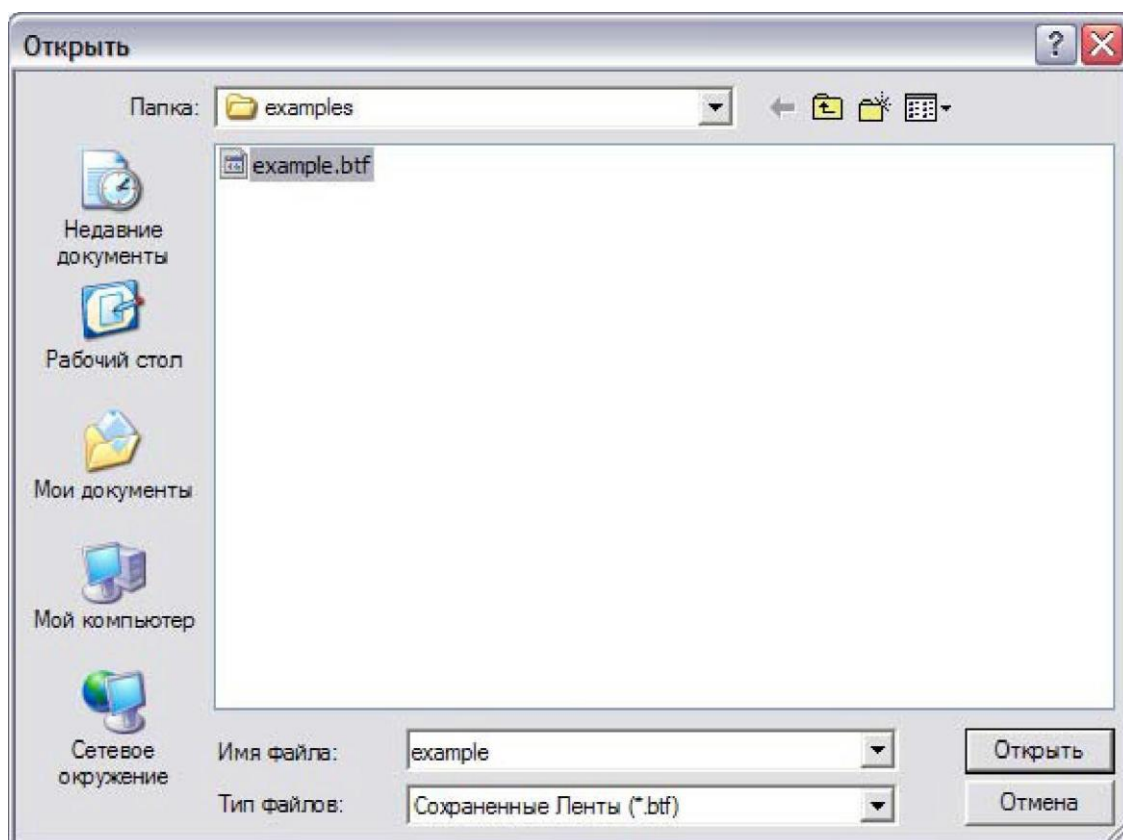

Fig.25
- Press  button to load data files, chose *.btf file.(Fig.25)